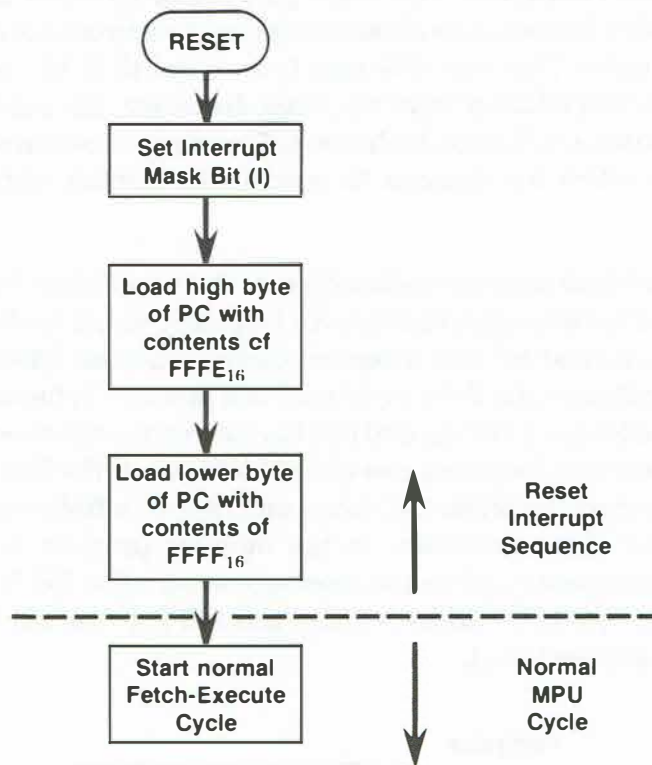

Figure 6-45
Figure 6-45 shows the sequence of events that occurs when the MPU is reset. First, the interrupt (I) mask bit is set. You will recall that the (I) flag is one of the condition code registers. As you will see later, if this flag is set, it prevents one of the other interrupts from occurring. Thus, the MPU sets the interrupt mask bit so that the reset sequence will not be interrupted by a request for interrupt by one of the I/O devices.